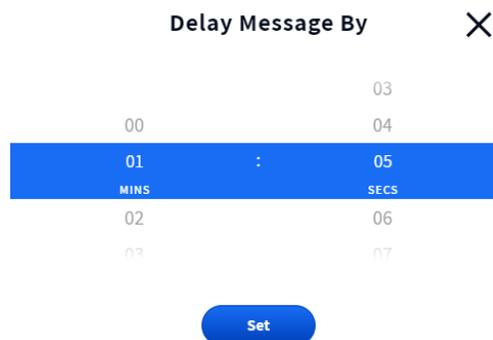

Fig. 1.15
**Adjustment Counters:** Some active areas such as time fields are edited by tapping on the field (see Fig. 1.15). Tap on a number above or below the blue field to change. Continue doing so until the desired number is in this field. The minute and second fields are controlled separately.